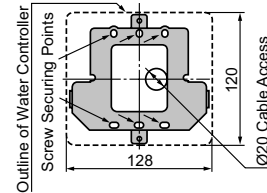

Fig. 1
2. Use the wall mounting bracket as a template to mark and drill 3 holes, locating the cable access as shown in Fig. 1.